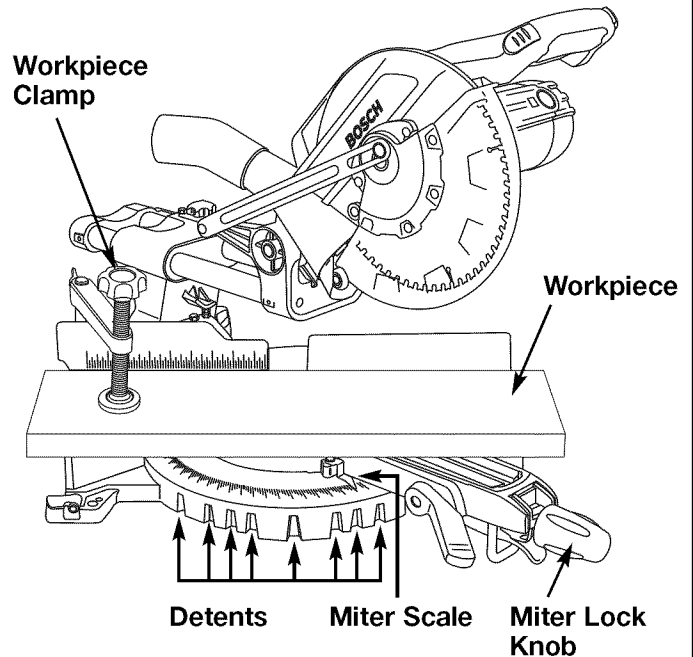

Figure 28. Miter Cut
1. Loosen miter lock knob. Lift miter detent trigger and move the saw to the desired angle, using either the detents or the miter scale. Tighten miter lock knob (Figure 28).